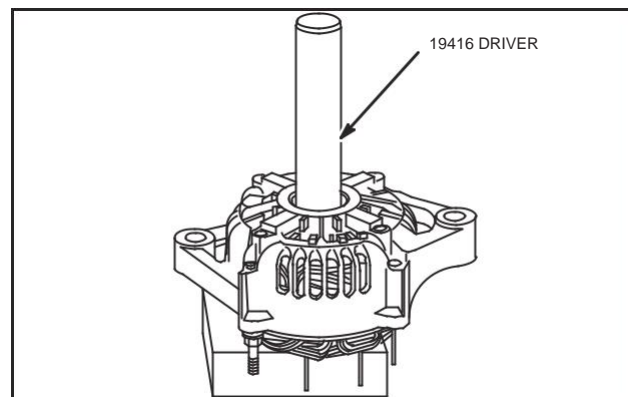

Fig. 29 – Remove Bearing Retainer
1. Remove four screws and bearing retainer, Fig. 29.